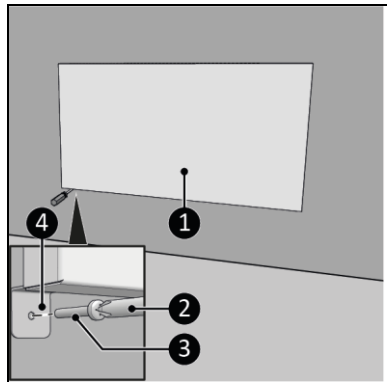

Figure 13
14. Place the device (Figure 13, pos. 2) back on the wall brackets (Figure 13, pos. 1).
15. Screw and tighten the device brackets (Figure 13, pos. 4) with a large screw (Figure 13, pos. 3) to the wall (Figure 13, pos. 3) using a Phillips screwdriver (Figure 13, pos. 2).